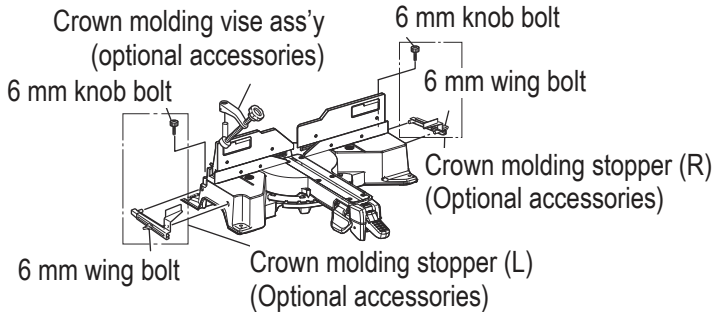

Fig. 30
- (1) Crown molding Stopper (L) and (R) (optional accessories) allow easier cuts of crown molding without tilting the saw blade. Install them in the base both-sides side to be shown in **Fig. 30**. After inserting tighten the 6 mm knob bolts to secure the Crown molding Stoppers.
- (2) The crown molding vise (B) (Optional accessory) can be mounted on either the left fence (Fence (B)) or the right fence (Fence (A)). It can unite with the slope of the crown molding and vice can be pressed down.